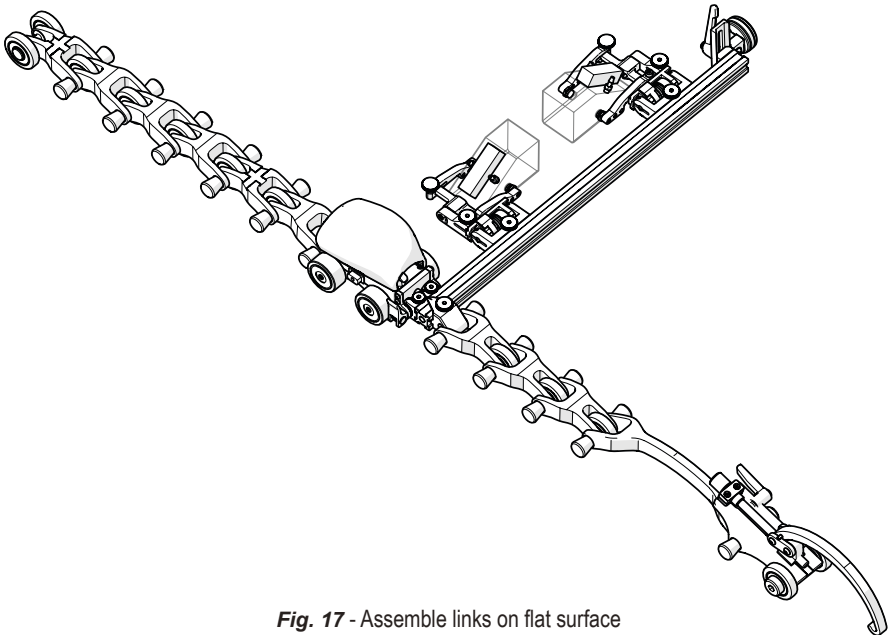

Fig. 17 - Assemble links on flat surface
3. On a flat surface, connect the appropriate amount of links as indicated on the **ROTIX** setup chart. Arrange the link setup so the buckle and catch link will be 180° opposite of the cart body (Fig. 17).